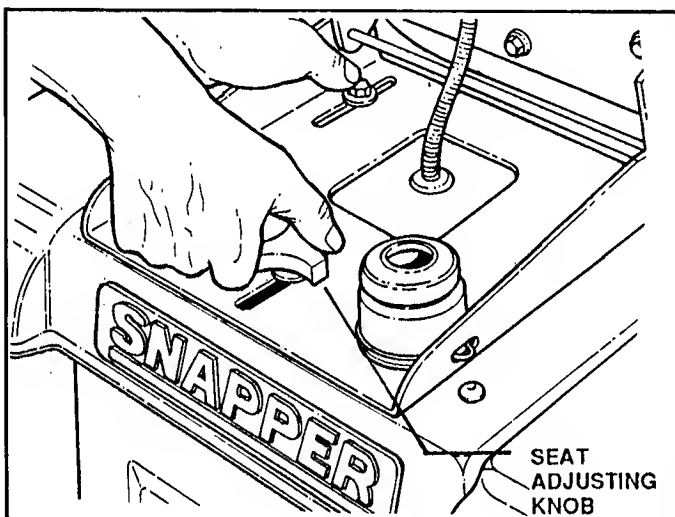

FIGURE 8
- RE-ADJUST SEAT as needed to most comfortable position. (Refer to Page 6, Figure 8).
**FORE & AFT ADJUSTMENT:** With machine stopped, loosen the ADJUSTING KNOB on seat support. Sit in operator's seat and, while depressing the CLUTCH /BRAKE PEDAL, slide the seat forward or rearward to the most comfortable position, then lock in position by tightening ADJUSTING KNOB. See Figure 8.